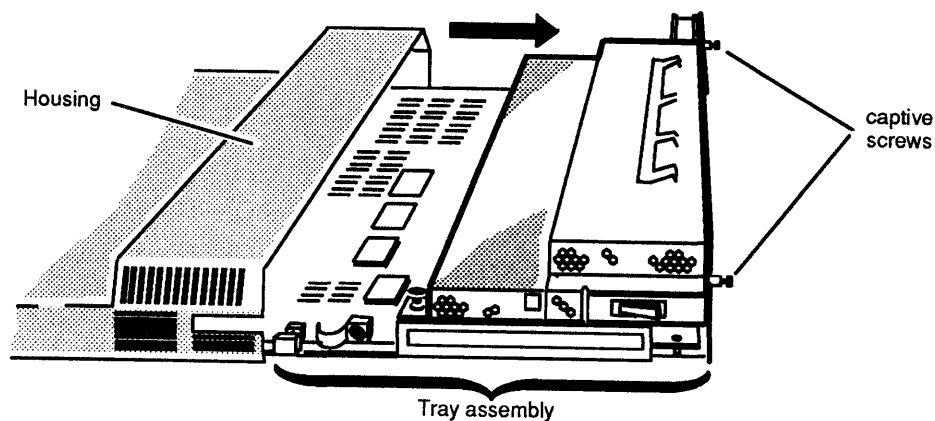

Figure 4-6 Sliding the Tray Assembly from the Housing
- Grasp the two captive screws on the back panel. Using them as handles, pull the tray assembly from the housing, as shown in Figure 4-6.